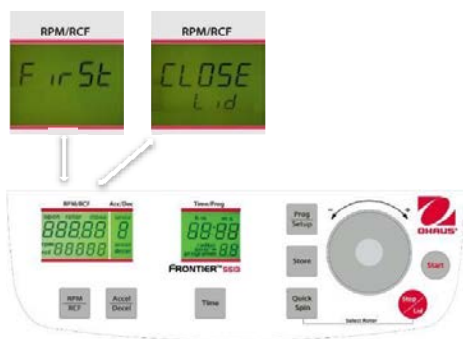
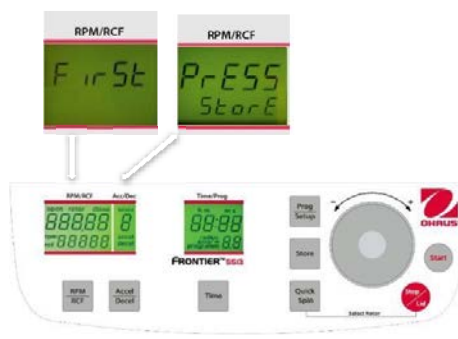

Figure. 20
Figure. 21
Close the lid of the centrifuge. Now proceed as described previously to set all important run parameters. If the lid isn't closed when storing the program, in the display **"RPM/RCF"** (A-1), the words **"FirSt"** and **"CLOSE Lid"** (see figure 20) flashes alternately. If you want to start the run without storing the program, in the display **"RPM/RCF"** (A-1), the words **"First"** and **"PrESS StoreE"** (See figure 21) flashes alternately.
For adaption of data press the key **"Store"** (2) (refer to figures 20 and 21) for approx. 1 second. If the program is stored correctly, the word **"StorE"** appears in the display **"RPM/RCF"** (A-1). As a result, the word **"programm"** (M10) disappears.
You can start the centrifuge either with the **"Start"** key (10) (refer to figure 21) or the **"Quick Spin"** key (8).